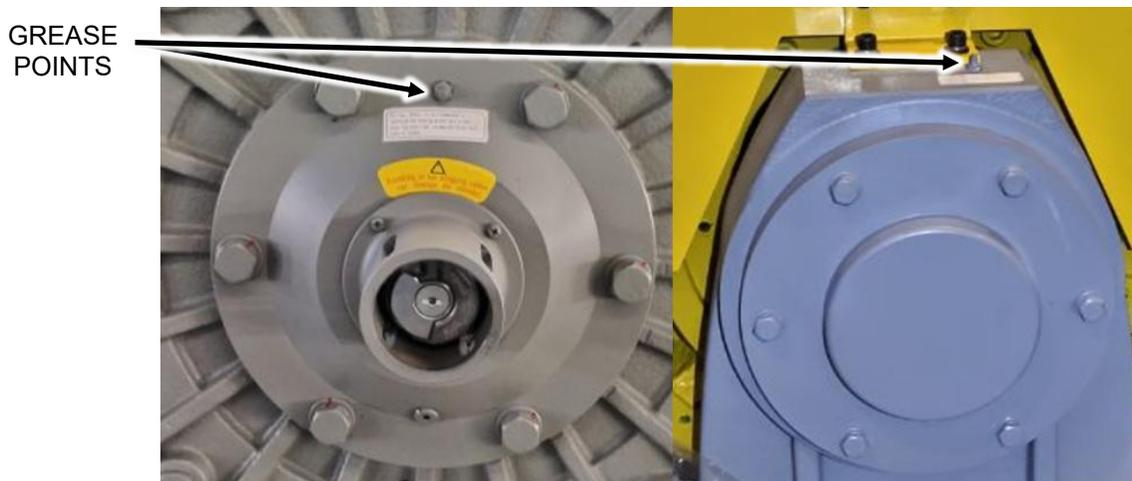

Figure 20
2. The grease point is opposite the relief plug. Figure 20.